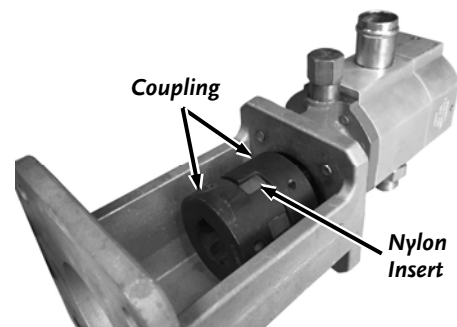

Figure 12
4. The Coupling may have separated during shipping. Ensure that the two Coupling Halves are together with the Nylon Insert in the center (Figure 12).